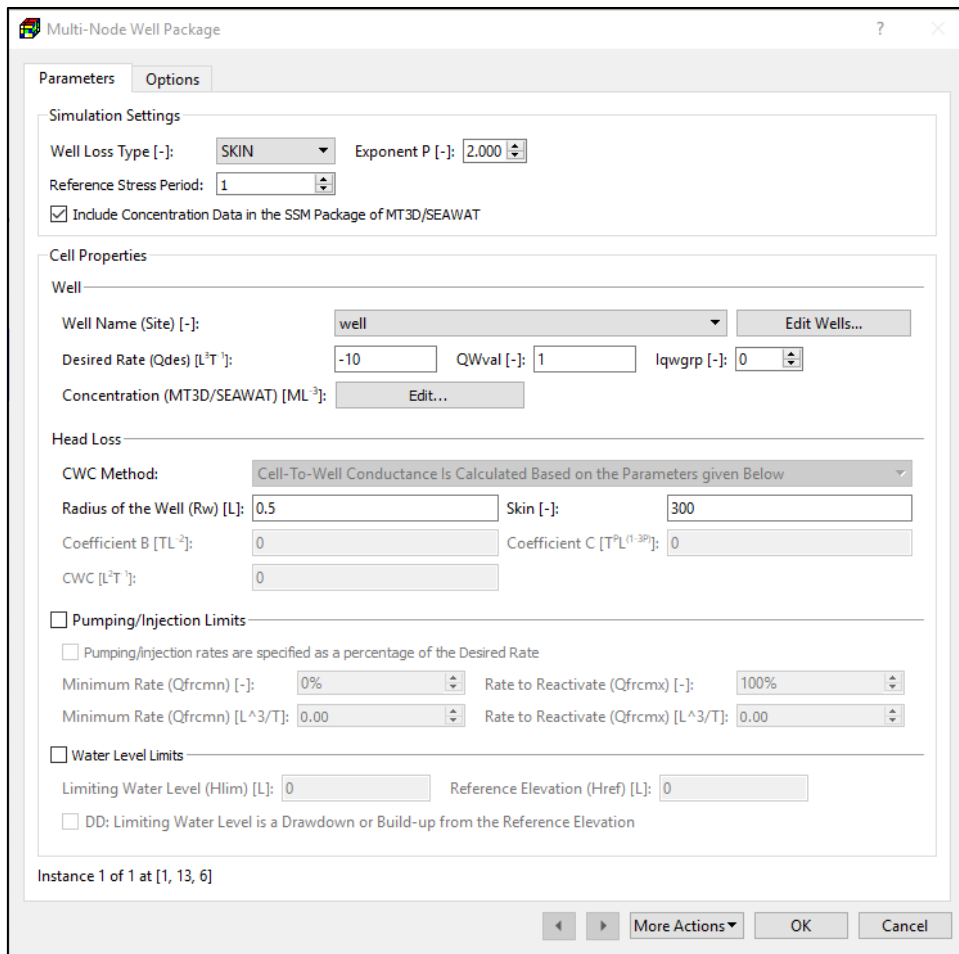

Figure 74. The Multi-Node Well Package dialog box
1. Cell-by-cell input method: Figure 74 shows the dialog box for specifying cell properties.